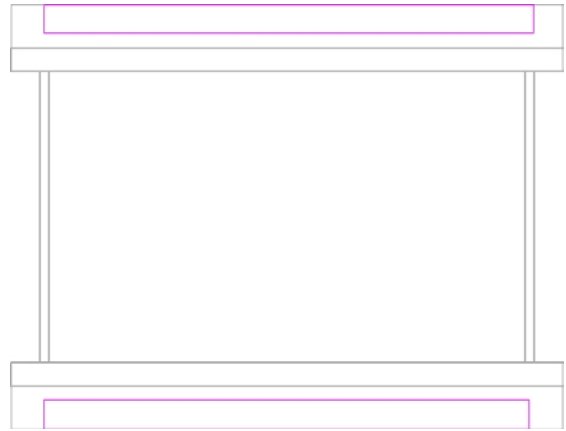

Figure 3.124
6. Using the sketch tools and trim in the Draw panel, complete the sketch of the soffits as a closed loop (Figure 3.124).